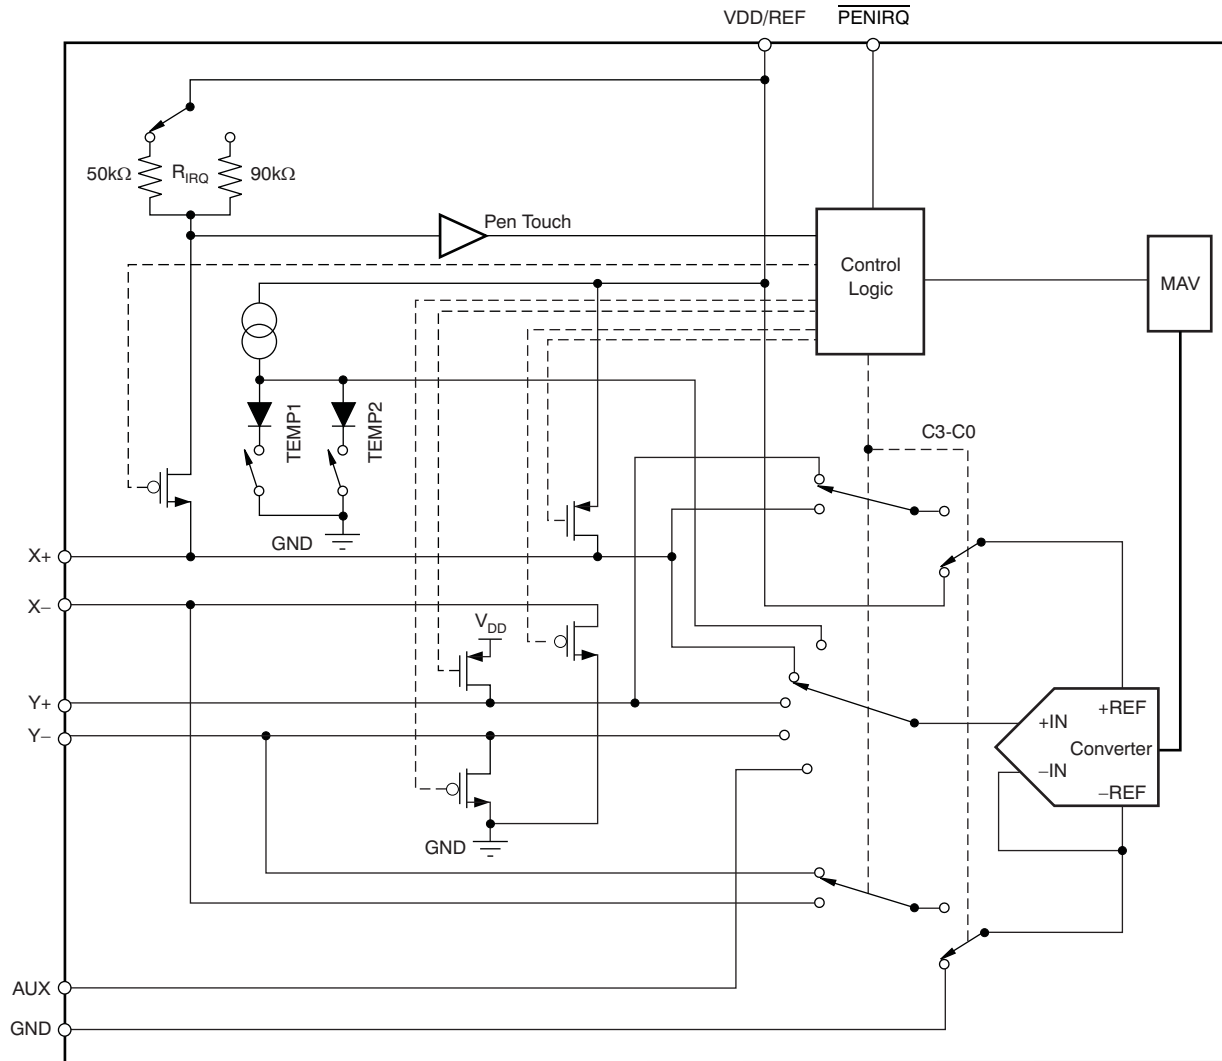

Figure 23. Analog Input Section (Simplified Diagram)
Figure 23 shows the analog inputs of the TSC2017. The analog inputs (X, Y, and Z touch panel coordinates, chip temperature and auxiliary inputs) are provided via a multiplexer to the Successive Approximation Register (SAR) A/D converter. The A/D architecture is based on capacitive redistribution architecture, which inherently includes a sample-and-hold function.
- (1) Reference voltage at converter: +REF – (–REF). See Figure 23.
- (2) Input voltage at converter, after multiplexer: +IN – (–IN). See Figure 23.